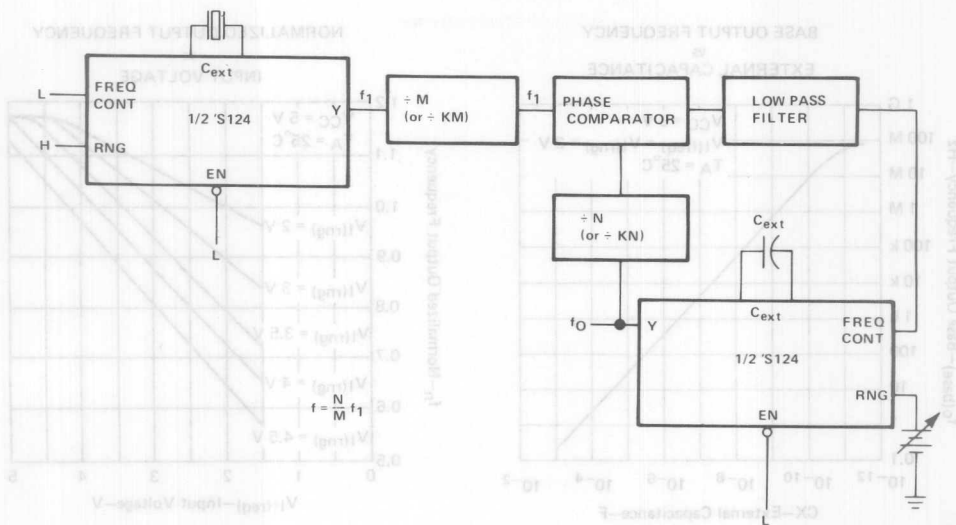

FIGURE 1—PHASE-LOCKED LOOP
A basic crystal-controlled phase-locked loop is illustrated in Figure 1. This application can be used for implementation of:
- Frequencies $\frac{f_1}{M}$ and $\frac{f_1}{N}$ can be divided equally by the same constant (K) also shown in Figure 1. The constant can be any value greater than unity ($K > 1$), and should be selected to yield frequency ranges that can be handled adequately by the phase-comparator and filter. The output frequency (f_o) retains the same relationship as previously explained because now: